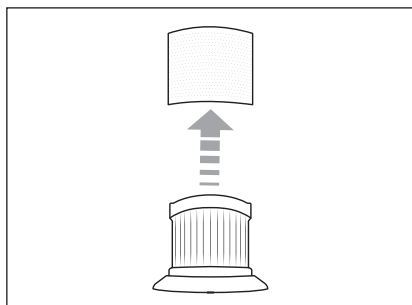

Fig. 12
- 3) Pull the stainless steel filter **6** off the EPA filter **5** (see Fig. 12).